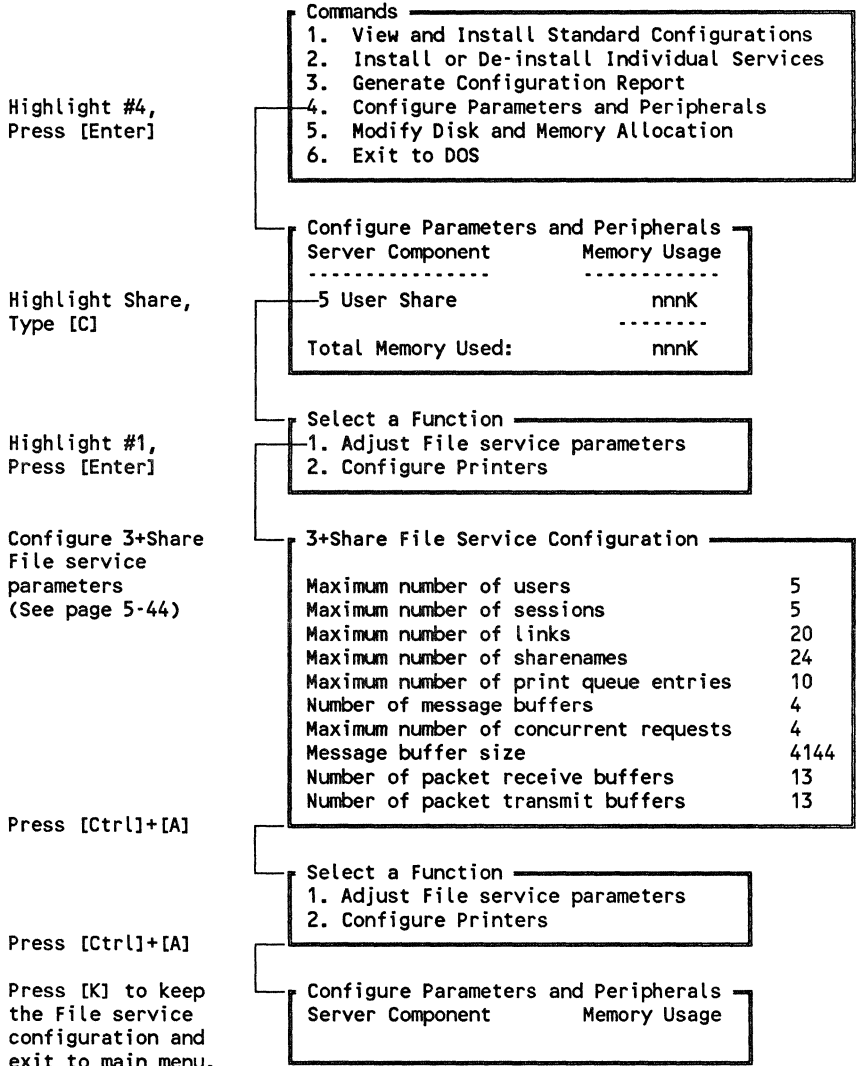

Figure 4-2. How to Adjust 3+Share File Service Parameters
**NOTE:** If you install a standard configuration and intend to add one more service that you will install individually, accept the preset parameter values. Proceed with the individual installation, then adjust the parameter for number of users (see Figure 4-2).
**CAUTION:** If you are installing N User Share or a Mail service after having installed a 5 User version of the same service, you will be asked twice to insert your service diskette. Make sure you insert first the diskette you marked as 5 User. After installation, adjust the number of users. See Figure 4-2.
- ▶ Adjust for **Number of users** after installing N User Share on a PC server (see Figure 4-2).